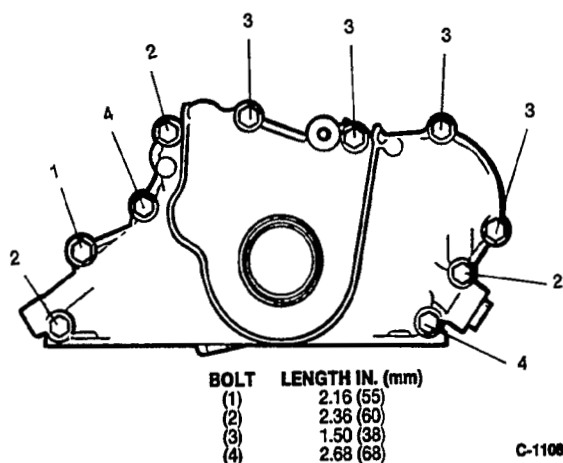

FIGURE 9-41. FRONT CASE BOLT PLACEMENT
11. Install the front case assembly and gasket. Install the correct bolt length at locations shown in Figure 9-41 and tighten to the specified torque.